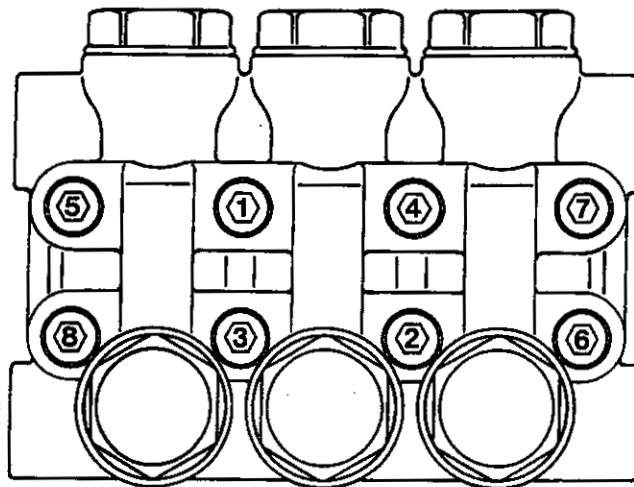

FIGURE 3
- Install the eight Allen head cap screws (201) and washers (202) finger tight. Torque the screws to 15.9 ft-lb (2.2 Nm) following the tightening pattern in Figure 3. Uneven tightening may cause the manifold to bind or jam.